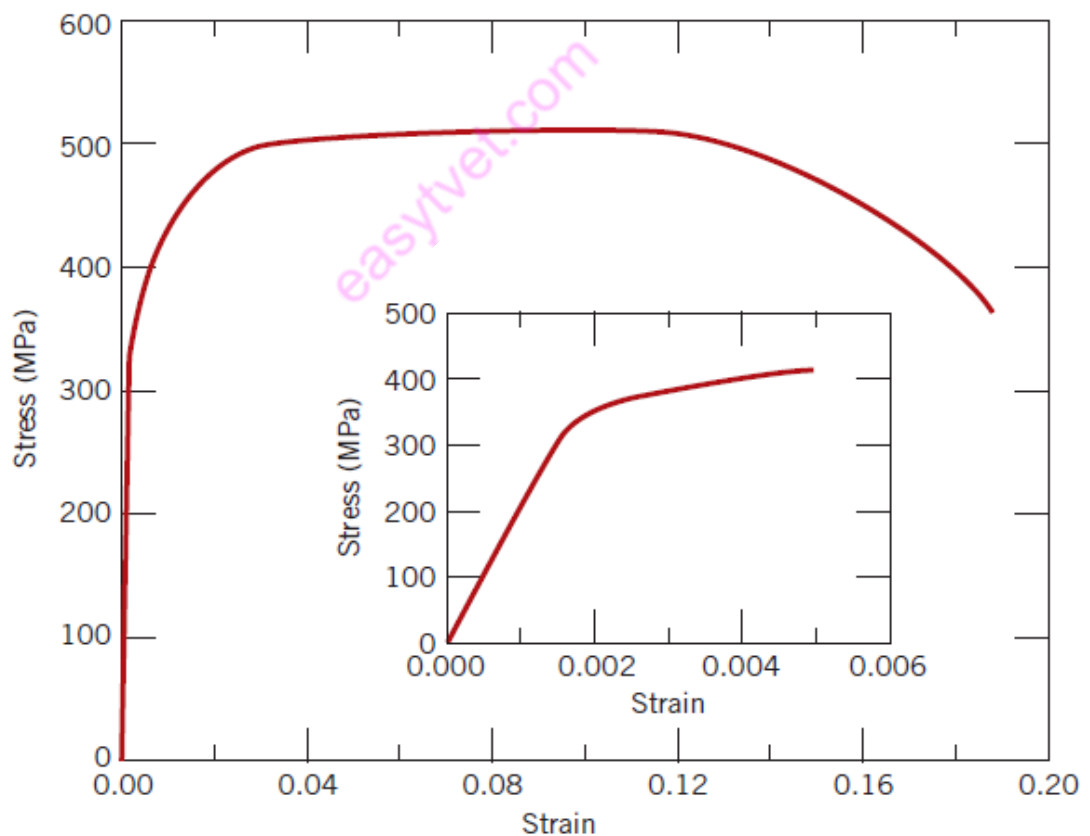

Figure 2
b) Figure 2 shows the tensile engineering stress–strain behaviour for a steel alloy. Use the graph to interpret the following;